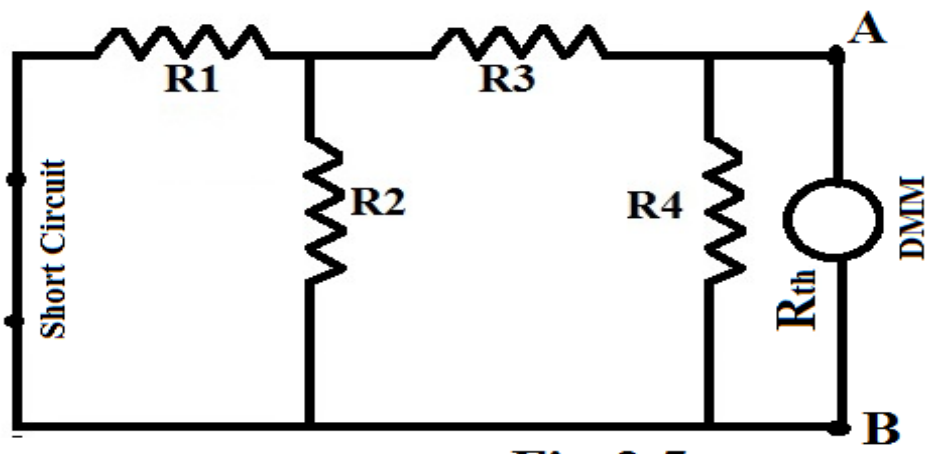

Fig:2.5
2. To find Thevenin's Resistance (R_{th}), Short circuit the Voltage Source in the given circuit as shown in Fig 2.5 and find out the Thevenin's resistance across open circuited terminals after removing the Load Resistance with the help Digital Multimeter (DMM).